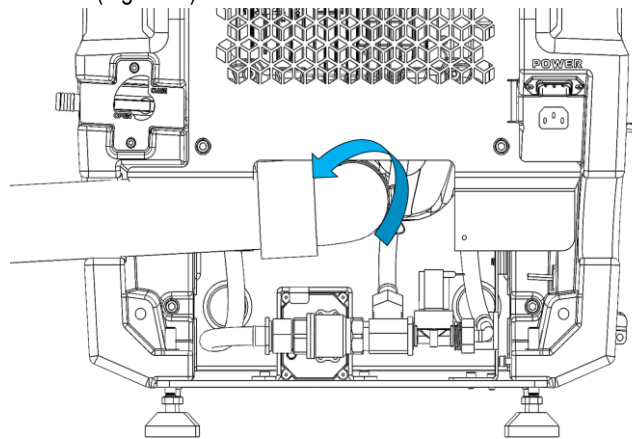

FIGURE 2-10
3. Turn the hose to the other side (Fig. 2-10).